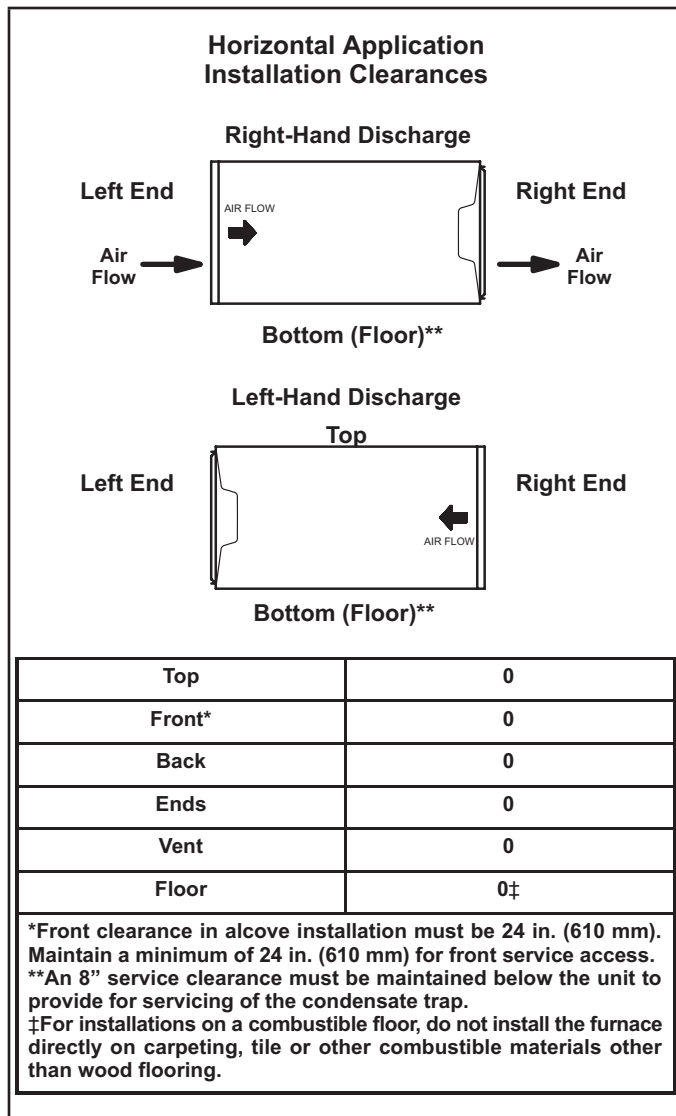

Figure 17
The ML196UHE furnace can be installed in horizontal applications with either right- or left-hand air discharge. Refer to Figure 17 for clearances in horizontal applications.
- 1 - Select location for unit keeping in mind service and other necessary clearances. See Figure 17.